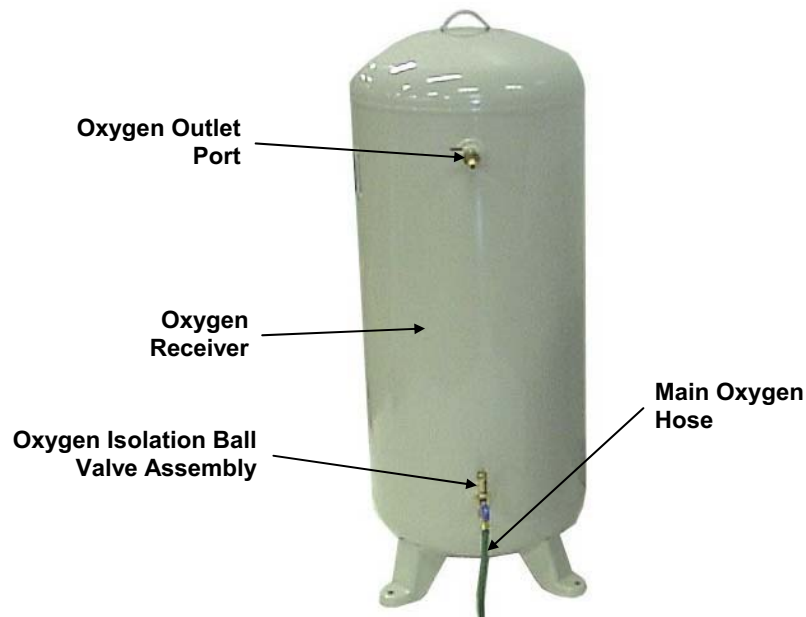

Figure 4.5: Oxygen Receiver
The oxygen isolation ball valve stops the flow of oxygen to the oxygen receiver during troubleshooting. The oxygen relief valve in the assembly prevents excess pressure from building in the oxygen receiver if a system malfunction occurs. This assembly is shipped mounted on the oxygen receiver. See Figure 4.5.
4. Attach the red air hose from the compressor enclosure to the fitting on the left hand side of the PSA enclosure (See Figure 4.5 and 5.1).
6. Attach the main oxygen hose from the supply valve to the inlet of the oxygen isolation ball valve assembly at the oxygen tank (See Figure 4.5 and 5.1).